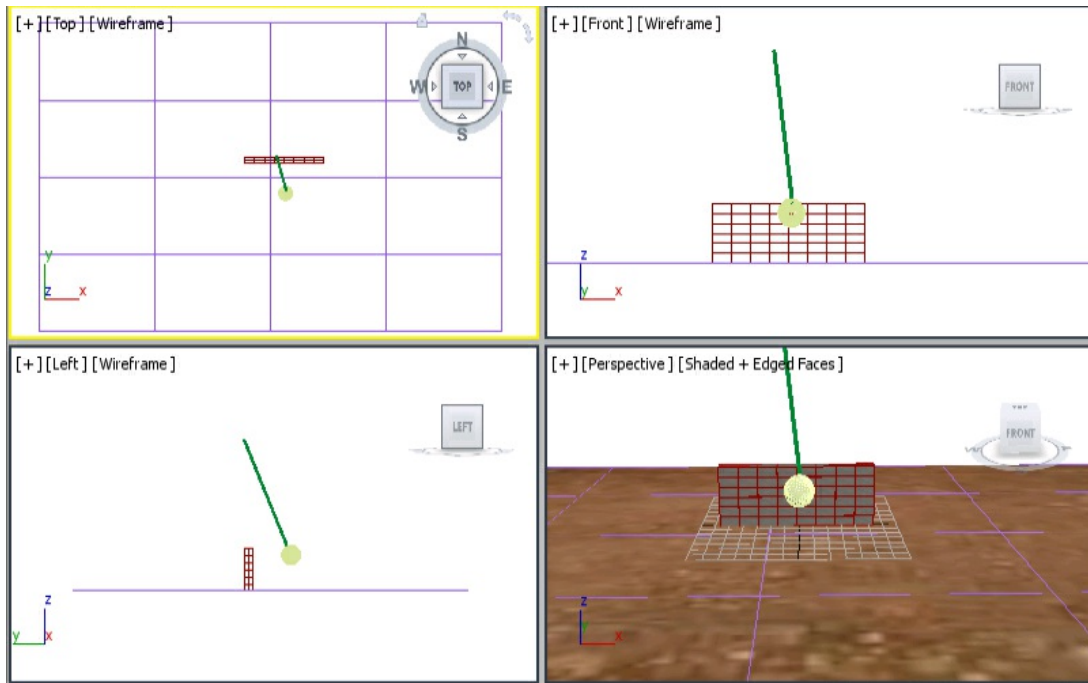

Figure 16-62 The brick wall with a metal ball and metal rod in viewports
1. Choose **Open** from the **Application** menu; the **Open File** dialog box is displayed. In this dialog box, browse to the location *\Documents\c16_3dsmax_2016_tut* and select the **c16_tut2_start.max** file from it. Choose the **Open** button to open the file, refer to Figure 16-62.